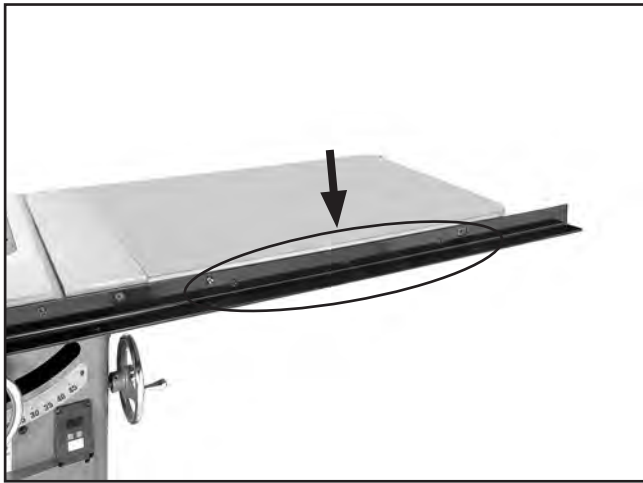

Figure 13. Front rail/table fastener locations.
5. While an assistant holds the extension table, fasten the 91³/₈" front rail to the extension table with three flat head screws, flat washers and hex nuts (**Figure 13**). Finger tighten for now.
7. Align the table and extension table with a straightedge (**Figure 15**), then tighten the fasteners in **Figure 13** with a 5mm hex wrench and 12mm wrench.